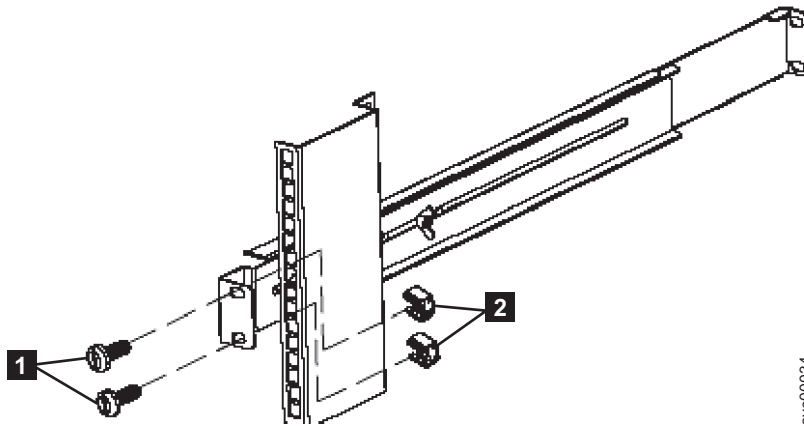

Figure 17. Securing the rear rail on the 2145 UPS-1U
- Using two M6 × 10 screws (**1** in Figure 17) and two clip nuts **2**, attach the rail to the rear of the rack.